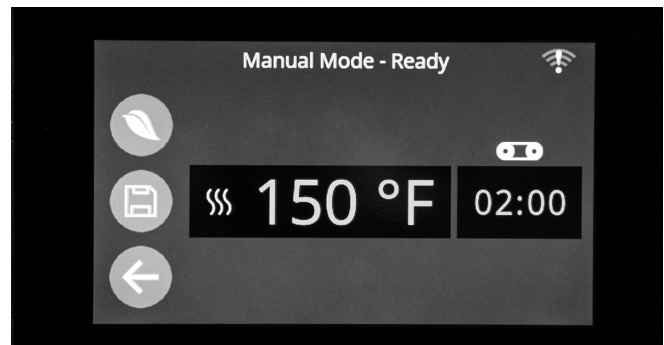

Figure 13
5. **Save Recipe:** Press the Save icon  in the Manual Mode Screen (Figure 13). You will be asked to enter a password (Figure 14). The password is 6-7-8-5-3-5. The screen will transition to a numbered screen (Figure 15). Select the Recipe number and press the check mark. The icon and border color can be changed by selecting the Change Icon and/or Change Color buttons (Figure 16). Press the check mark to save the recipe. The screen will transition to Figure 17.